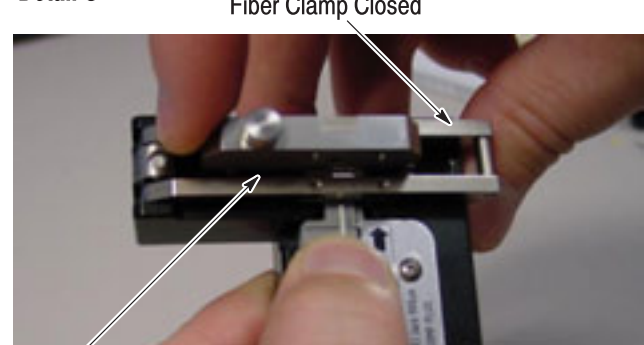

Figure 11
2. Place the stripped fiber into the slot so that the end of the buffer is at the 8-mm marking. See Figure 11, Detail A.
3. While applying pressure on the buffer, carefully slide the fiber slide forward (toward the carriage) until it stops. See Figure 11, Detail B.
4. Gently close the fiber clamp, and slide the carriage forward. DO NOT touch the button while sliding the carriage. See Figure 11, Detail C.